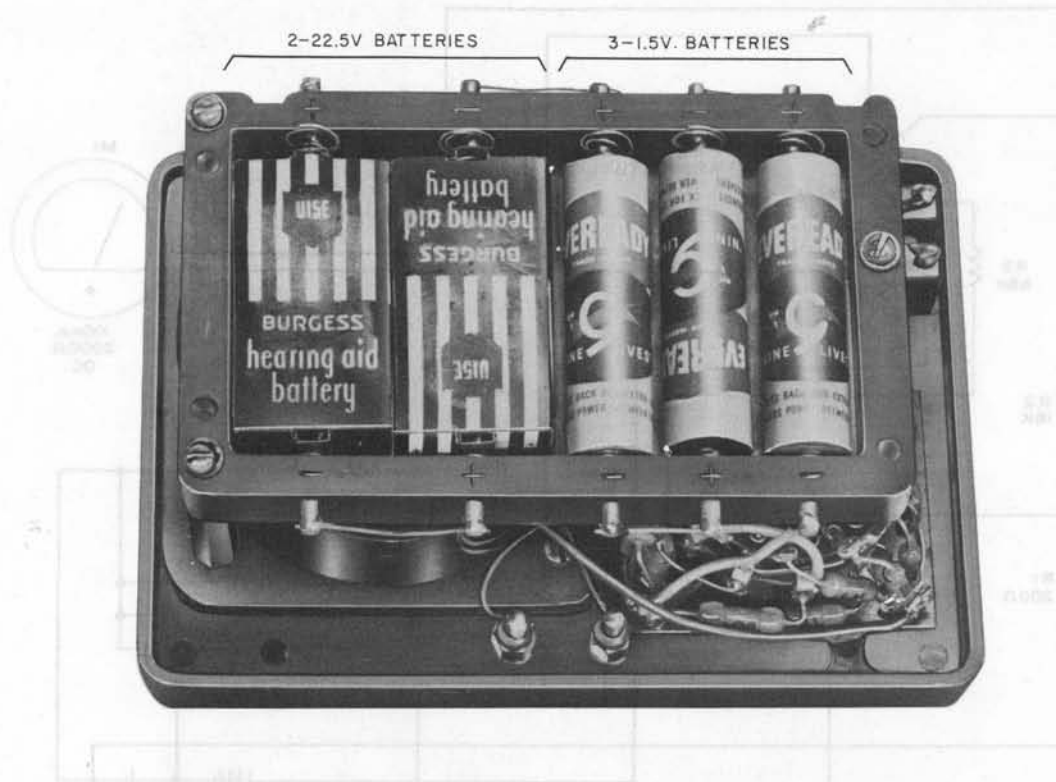

Fig. 2—K-12054 Test Set—Bottom View—Cover Removed
2.08 The test set operates from self-contained batteries which are not supplied with the test set and must be ordered separately. Figure 2 shows the test set, bottom view cover removed, with the five batteries in their proper positions. The following batteries are required for the operation of this set: